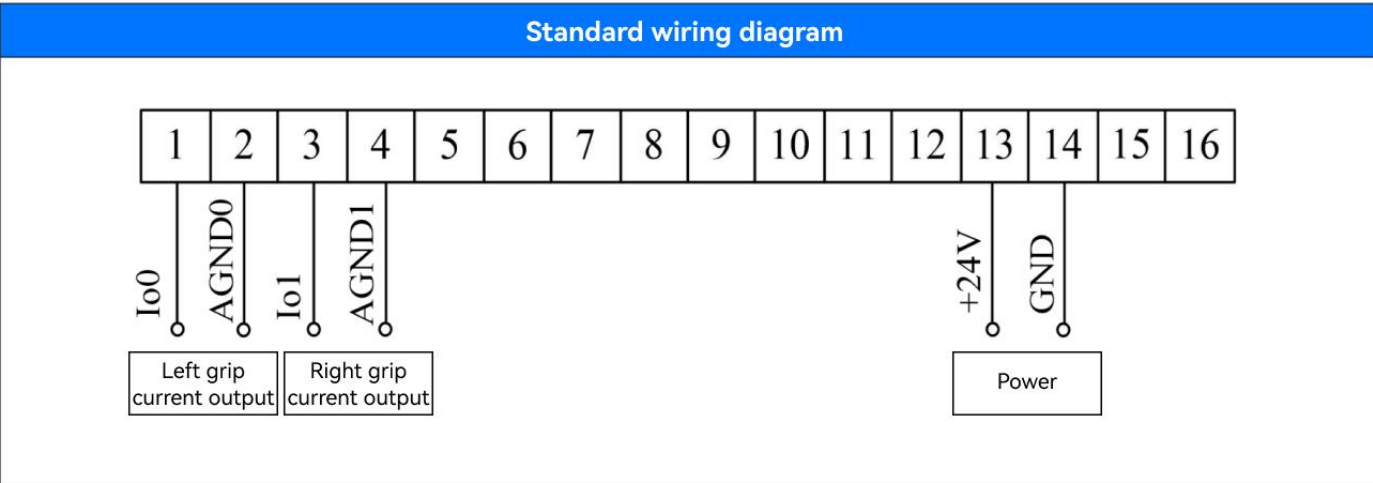
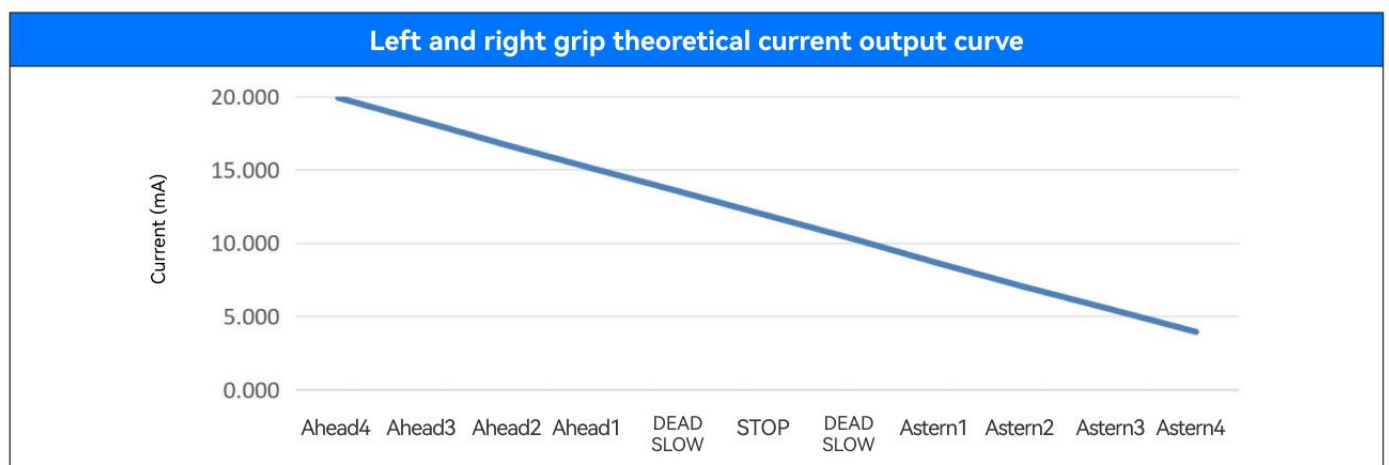

Figure 1.4
Figure 2.1
Connect according to Figure 1.4 on the 16-bit terminal block. P1/P2 are the current outputs of the left grip, P3/P4 are the current outputs of the right grip, and P13/P14 are connected to the 24V regulated power supply.
5. Output mode: 4–20 mA linear output, linear with respect to the scale. Theoretical output is shown in Figure 2.1; actual output is provided in the product factory inspection report.
2. Connect the power supply, wire according to Figure 1.4, push the handle rod, and the resistance reading between terminals 1 and 2 will be the continuously linearly varying output value as shown in Figure 2.1. The backlight lamp should illuminate normally. After inspection is completed, reset the handle rod to the 0 scale mark.